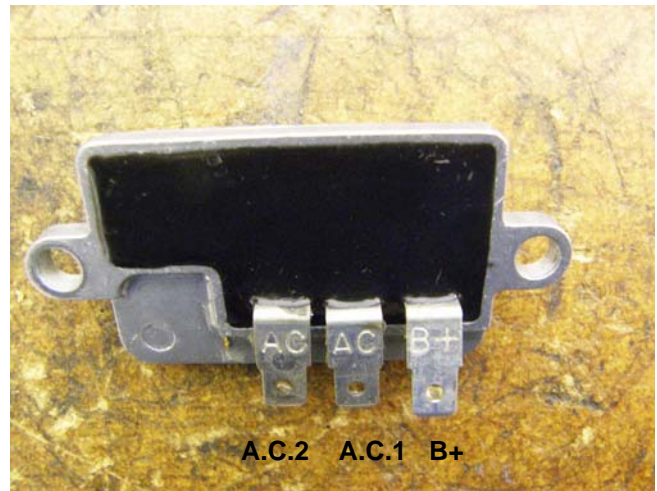

Figure 7.31
- 6b. Bench Test: See Figure 7.31.